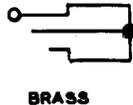

Fig. 1—350A Plug
2.01 **350A:** The body end of the 350A plug (Fig. 1) is grooved to accommodate the 274 tool and is used with the 92- or similar-type jacks. The 350A plug is used at the outgoing trunk test, make-busy jack panels of Crossbar Dial Telephone Systems.